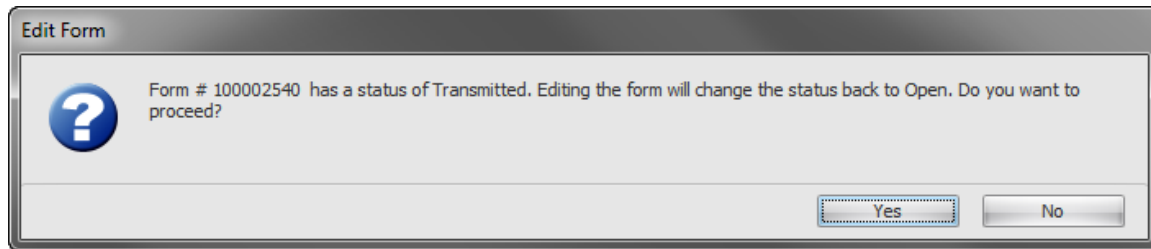

Figure 73. Do You Want to Proceed Message
3. The **Do you want to proceed?** message displays (as shown in Figure 73) to let you know that the status will change from "Transmitted" to "Open." Click **Yes**. The form converts to edit mode and the databar displays.